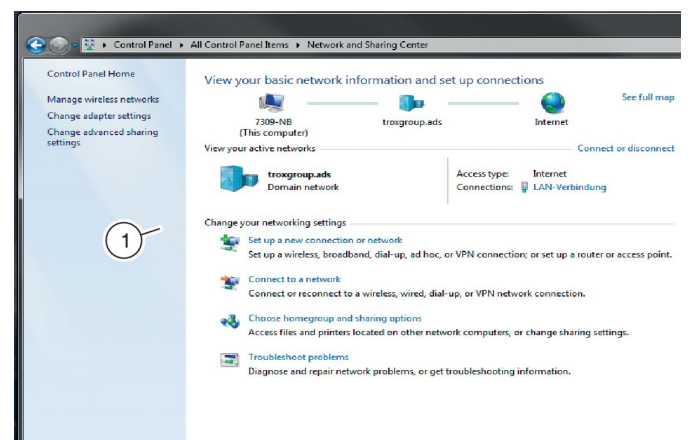

Fig. 37: Setting up a new connection or network
2. ▶ Select 'Set up a new connection or network' ( Fig. 37 /1).